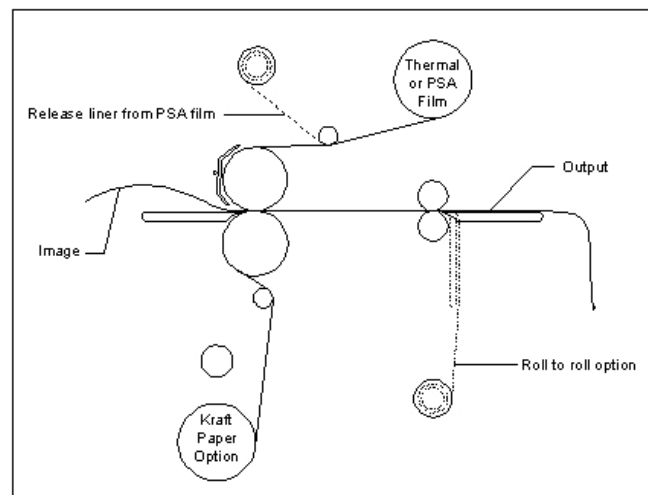

Fig 36
(Figure 36)
1. Load the laminator as illustrated in Figure 36.